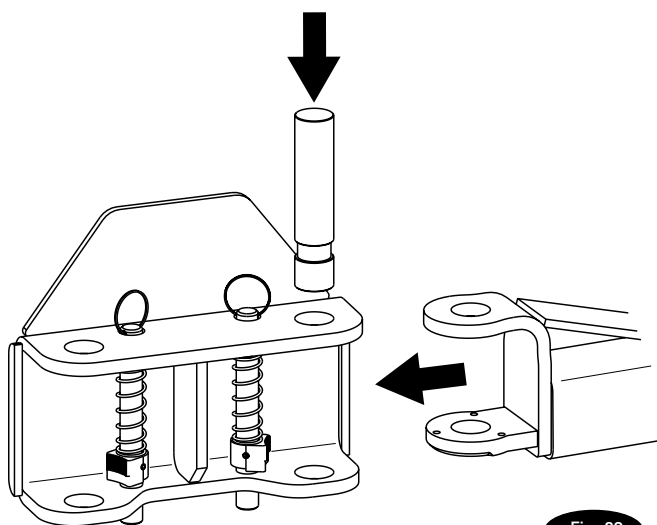

Fig. 23a
16. Arms & Restraints: Before installing arms, raise carriages to a convenient height. Grease swivel arm pins and holes with Lithium grease. Slide arm into yoke, Fig. 23a. Install 1-3/4" diameter arm pin(s), Fig. 23a.